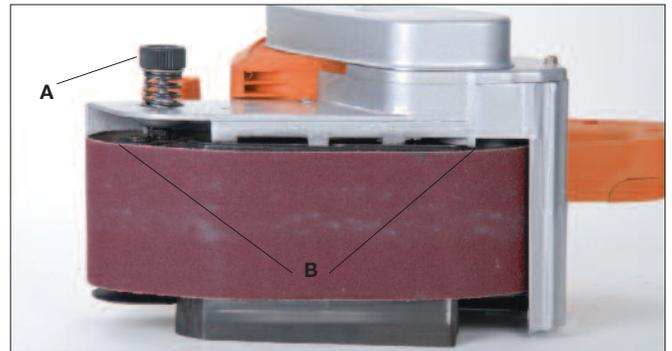

Figure 4
To adjust the sanding belt tracking, turn the sander upside down. Hold the sander firmly with one hand, start the motor and release the On/Off Switch immediately after observing the belt tracking. If the sanding belt runs outward, turn the Tracking Knob (A) Fig. 4 clockwise and counterclockwise if the sanding belt runs inward. Make this adjustment until the outer edge of the belt is even with the outer edge of both rollers (B).